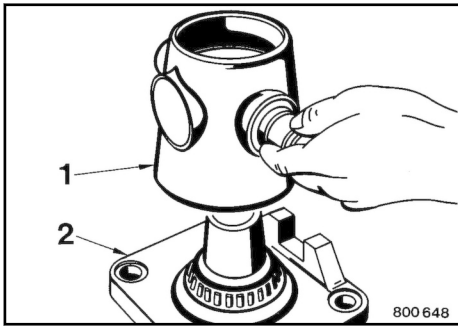

Fig. 201
6. Mount bearing housing 1 ↗ Fig. 201 to bearing journal (2).